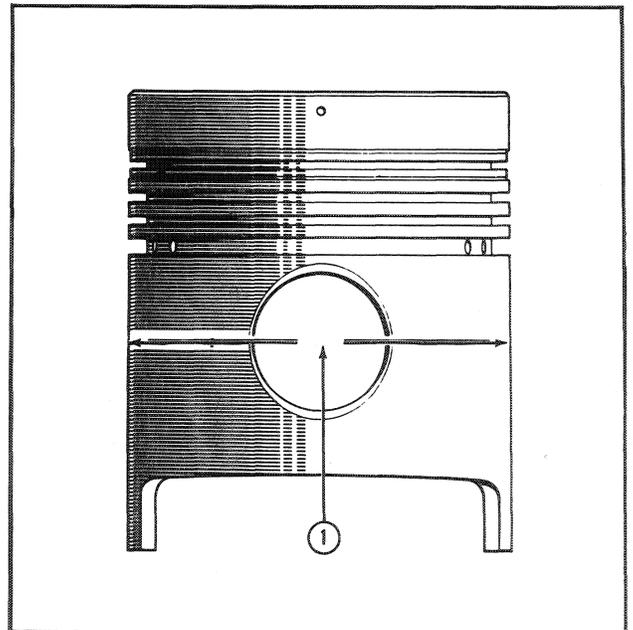

Figure 44
5. With an outside micrometer, check and record the "W" diameter of the piston to be fitted, Figure 44.